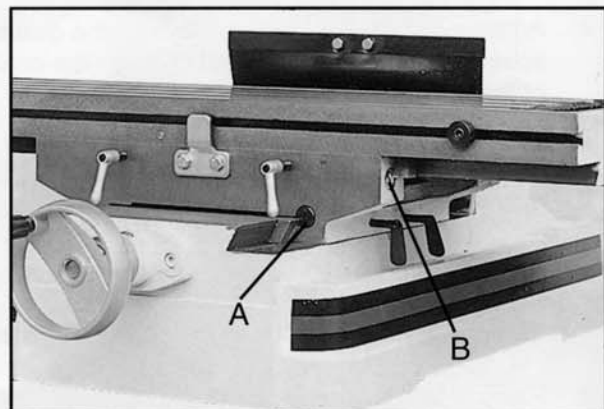

Fig. 13
- The horizontal gib adjustment screw (A, Fig. 13) is found to the right on the table face. The traverse gib adjustment (B, Fig. 13) screw is found on the right side of the saddle under the table.